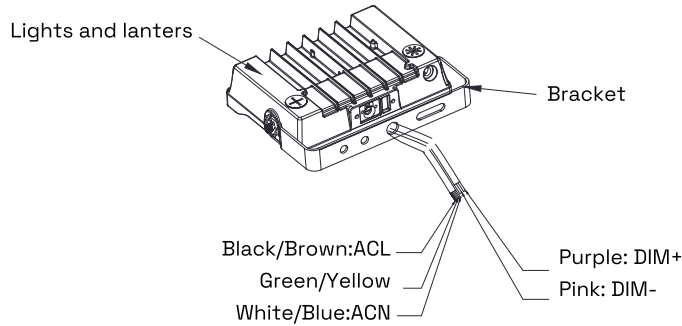

Fig 7.3
Step 2: Finish the wire connection according to the right mode of connection (pay attention to positive wire, negative wire and ground wire). Figure 7.3